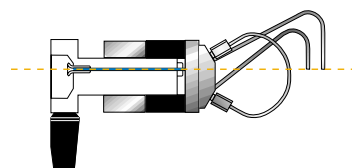

Fig. 2. Correct position of vent lines.
c) Connect the two vent tubes (supplied) to Ports 5 and 6. Place the outlet ends of both at the same horizontal level as that of the needle port to avoid siphoning. See Figure 2.